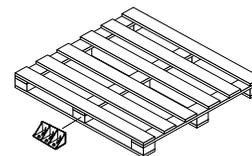

Figure 2A
**2 Quantity and Placement:** Determine if it is a light, medium or heavyweight load. For light loads, a single Floor Brace XL should be positioned against the center stringer of pallet or center of non-palletized freight (Figure 2A).